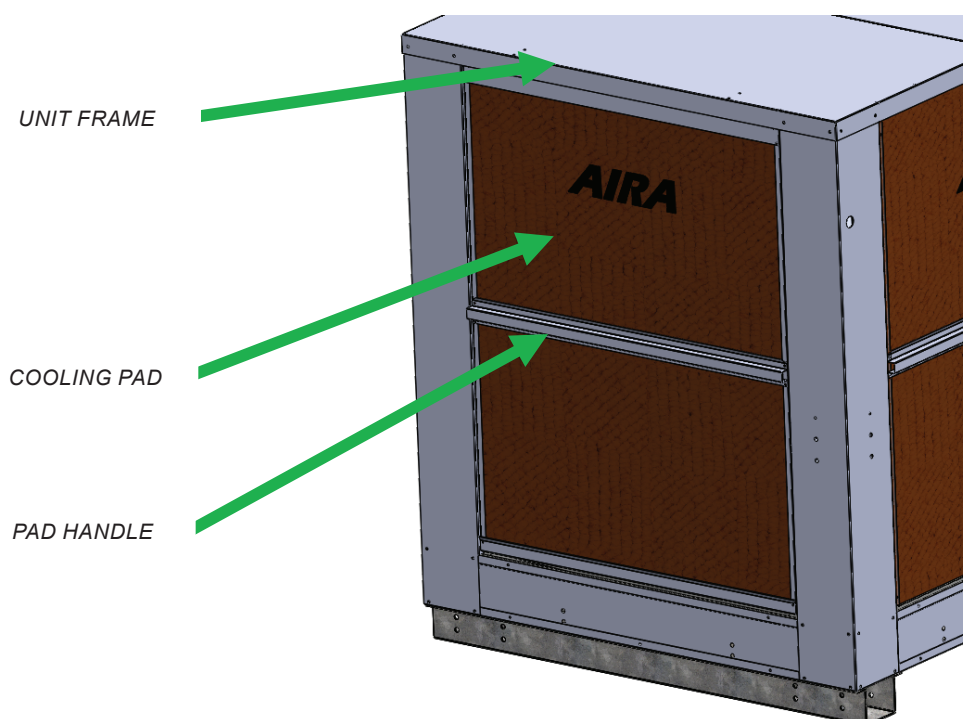

Figure 15: Cooling Pads
2. Lift pad vertically using the handle on the pad frame assembly shown in Figure 15: Cooling Pads